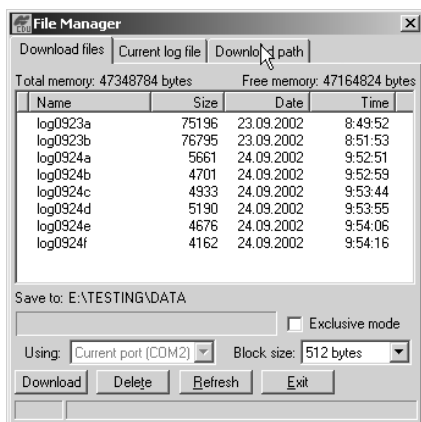

Figure 3-9. Find Files to Download
6. Click the **Download path** tab on the *File Manager* dialog box (Figure 3-9).